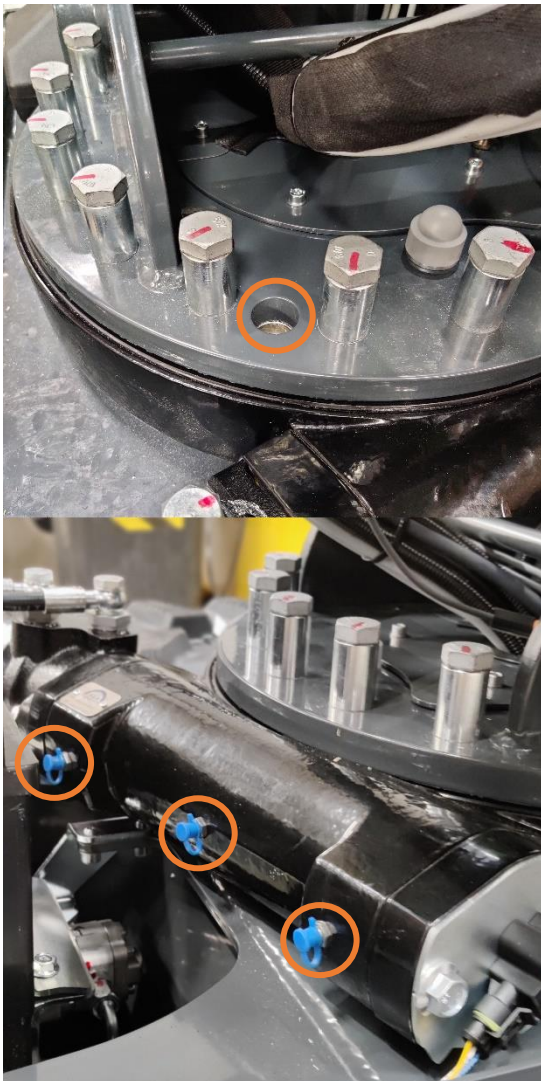
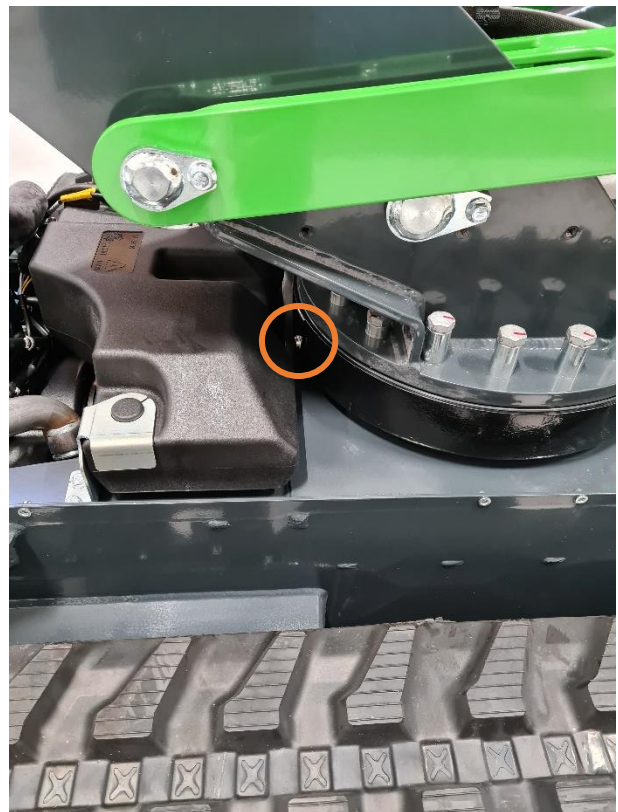

Figure 20. Slew ring greasing points
Figure 21. Slew ring greasing pressure relief screw
The slew ring of the access platform must be greased monthly. It is important to notice that the slew ring has four (4) separate greasing points (figure 20) which all must be greased individually. There is a pressure relief screw (figure 21) at the opposite side of the worm gear of the slew ring which should be opened when greasing the slew ring to avoid the seal from coming off. There are 3 greasing points next to the battery on the side of the slew ring which are connected to the worm gear and its bearings. One (1) greasing point which is on the top of the slew ring (hole through the pedestal) is connected to the rings ball bearings. When applying grease to this greasing point, it is important to apply grease all around the slew ring. To do this, apply grease and rotate approximately 20° after which apply grease again. Continue until the slew ring is completely greased (360°).